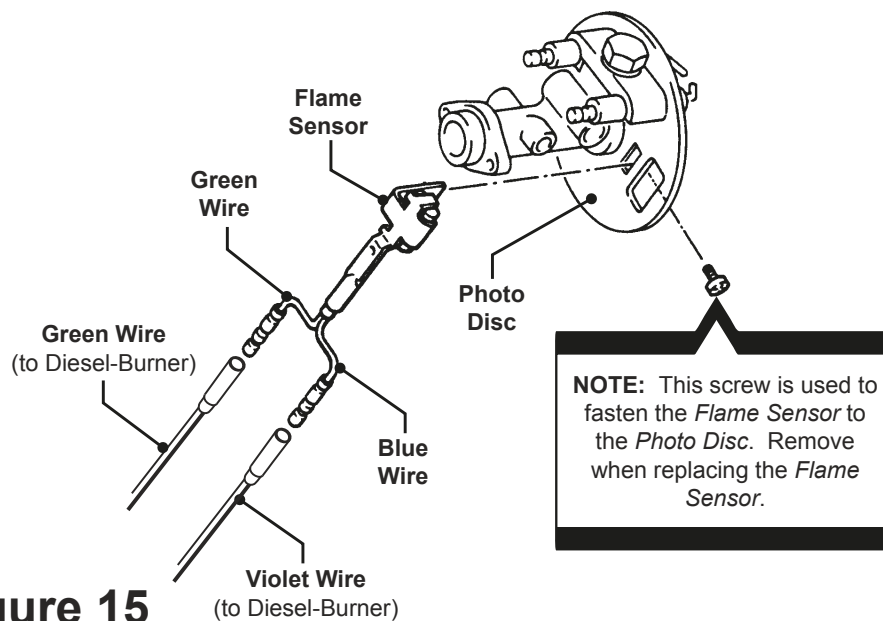

Figure 15
Component Test: Locate and detach the Flame Sensor's *Green* and *Blue* wires from the C-Plug Harness *wires*, reference Figure 15. Connect the Flame Sensor's *Green* and *Blue* wires to an ohmmeter, reference Figure 15. Check resistance by placing a shop rag over the Flame Sensor's glass surface, to simulate a no flame condition, and then remove the rag (and expose to a light source) to simulate a flame condition. If the *Flame Sensor* is operating properly, the ohmmeter should register high resistance (i.e. 100K Ω +) when the glass surface is covered, and less than 300 Ω when exposed to a light source. If these resistance numbers cannot be obtained, the *Flame Sensor* must be replaced, reference the Flame Sensor's "Replacement Procedure" below. Reference Section 10 for spare parts information.
Cleaning Tips / Maintenance: For light dirt, dust, and/or carbon deposits, simply wipe off the *Flame Sensor* with a soft cloth. Should heavy carbon deposits be present, completely remove the *Flame Sensor* from the *Photo Disc* and clean with brake cleaner, reference Figure 15.
1. Remove the *Screw* that fastens the *Flame Sensor* to the *Photo Disc* and detach the sensor's *Green* and *Blue* wires from the C-Plug Harness' *Green* and *Violet* wires, reference Figure 15.
2. Slide the tab of the new *Flame Sensor* into the provided slot in the *Photo Disc* and secure in place with the screw, reference Figure 15. Connect the Flame Sensor's *Green* wire to the *Green* C-Plug Harness wire and the *Blue* wire to the C-Plug Harness' *Violet* wire, reference Figure 15.